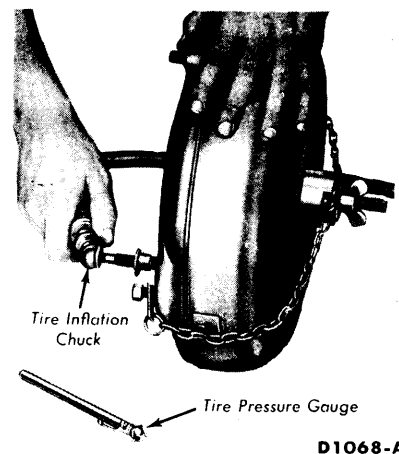

FIG. 3—Converter Leak Checking Tool Installation
1. Install the plug in the converter (Fig. 3) and expand it by tightening the wing nut. Attach the safety chains.